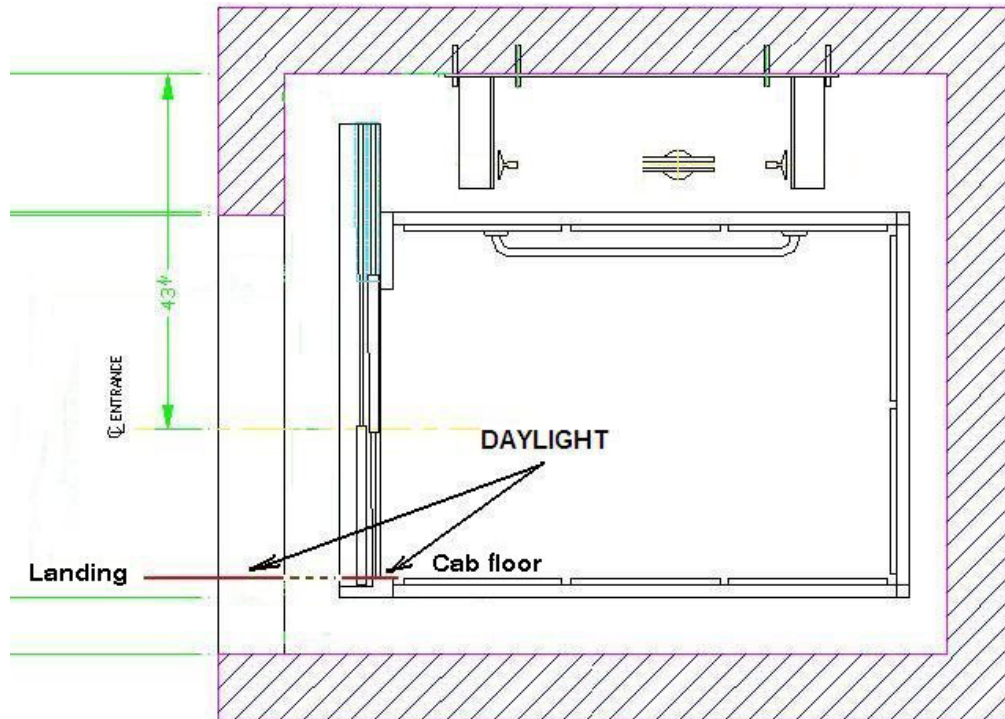

Figure 2 Daylight Line
1. Determine and mark the cab daylight line. See Figure 2.